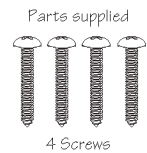

Figure 8B
5. Secure the drawer with the 4 screws supplied. See Figure 8B.